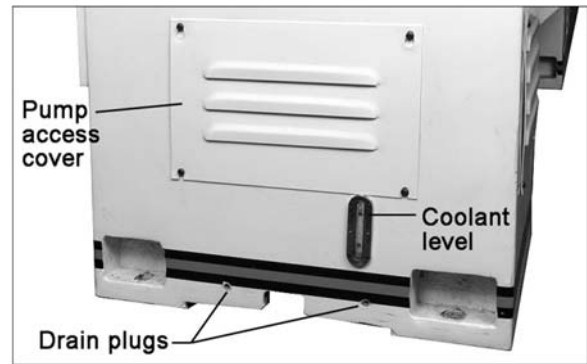

Figure 17
1. Remove access cover on the tailstock end of the lathe stand (Figure 17). Make sure coolant pump has not shifted during transport. Pour four gallons (approximate) of coolant mix into the reservoir. Use the gauge to determine when full.
To drain coolant, remove two drain plugs (Figure 17).